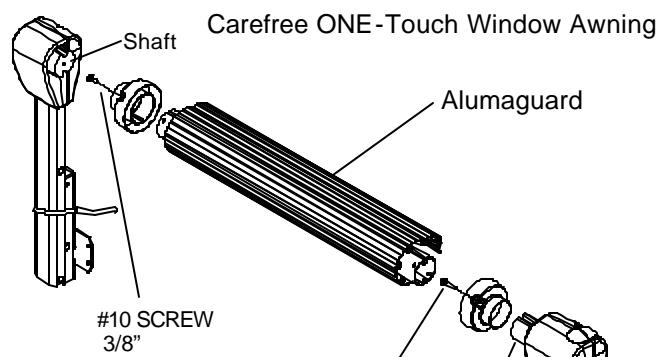

figure 2
B. Lay awning face down on a clean protected surface. Install roll bar collars on each end of the roll bar until they are fully seated against their stops. Insert the motor shaft into the roll bar making sure that the motor is on the right hand side of the roll bar when facing the awning rail. See figure 2.
D. Secure the roll bar collar and roll bar to motor shaft using the # 10 x 1½ " long self drilling screw provided. Secure the roll bar collar and roll bar to the idler shaft using the # 10 x 3/8" long self drilling screw provided. See figures 2 and 3.